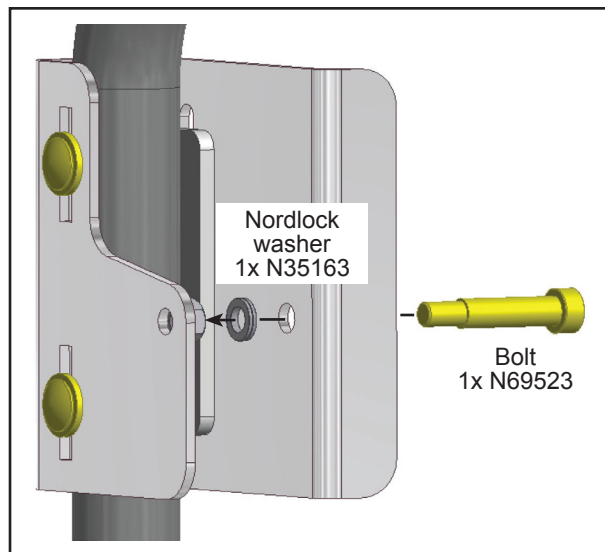

Figure 5 - Final Assembly of the New Plate on the Handrail
1.5. Install the parts indicated in Figure 5.